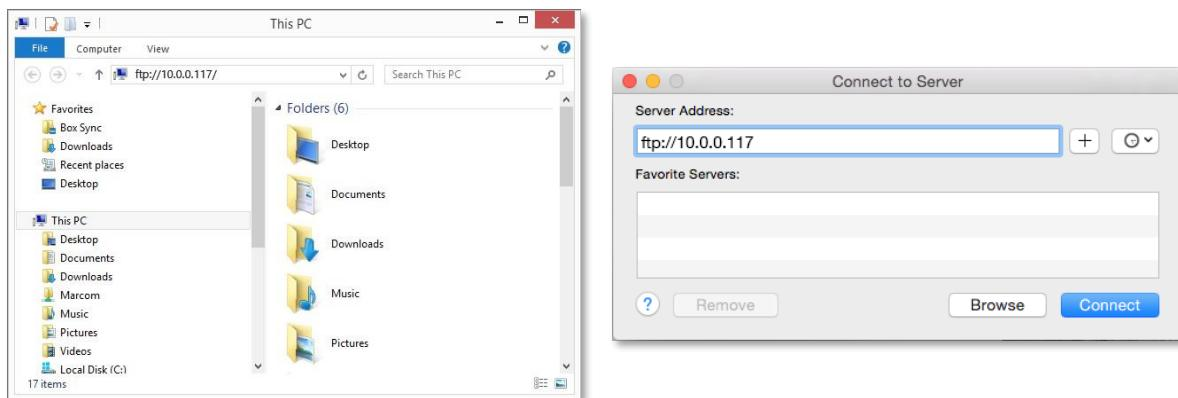

Figure 66: Enter the Digital Analyzer's IP address in File Explorer (left) or Finder (right).
1. On a Windows computer, open Windows Explorer or File Explorer. On a Macintosh computer, open Finder and select **Connect to Server...** from the Go drop-down menu. Once the file manager is open, type **FTP://(IP\_address\_here)** as shown in **Figure 66**.